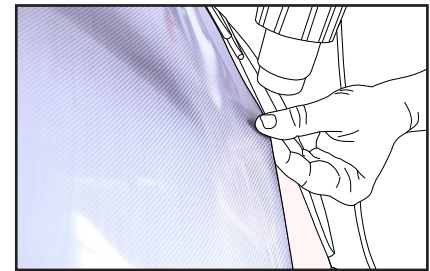

Figure 17
- › Heat the bottom of the film to 30 °C - 40 °C (86 °F - 104 °F) with the heat gun to release the tension previously applied to the film and thus reduce the tunnels that have formed during application. (FIG. 17)